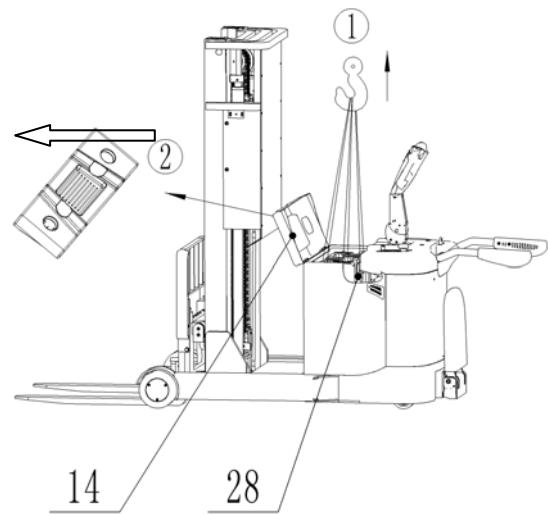

Fig. 12: battery replacement
Park the truck securely and switch off the stacker with the key (8) and activate the emergency button (6). If the truck is in good condition, push the mast according to Fig. 12, then open the battery cover (14), disconnect the battery plug, then remove the battery (1). If the truck is in bad condition, open the battery cover (14), loosen the screw and take away the battery cover (2), then remove the battery (1). The installation is in the reverse order of the removal. Otherwise the truck could be damaged.